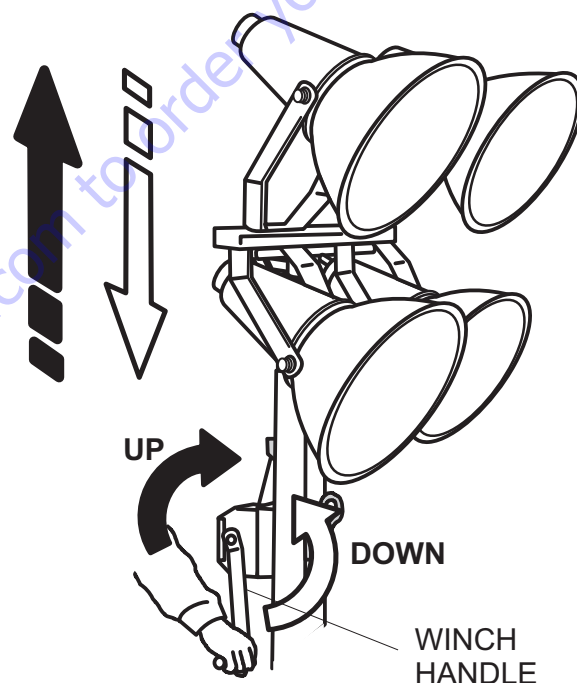

Figure 14. Adjusting Height of Light
2. Turn the handle of the mast winch clockwise to raise the lighting unit and turn the handle of the mast winch counterclockwise to lower the lighting unit (Figure 14).
1. Using the mast winch (Figure 14), lower the mast fully. Turn winch handle counterclockwise to lower mast.